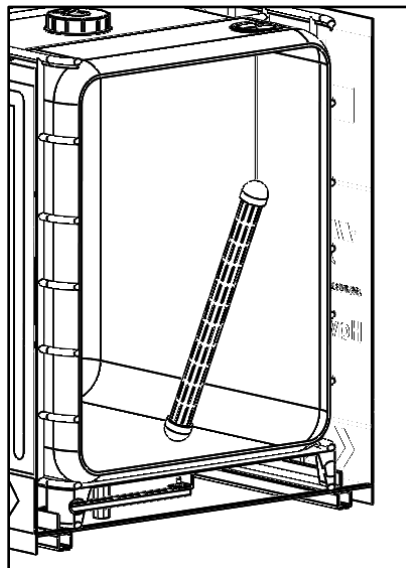

Figure 30. Model 9084 Cleansing Stick Installed
5. Place the Cleansing Stick through the hole into the tank. The end of the Cleansing Stick must rest on the bottom of the tank as shown in Figure 30. This mounting provision prevents the Cleansing Stick from obstructing the tank outlet or automatic refill float valve.